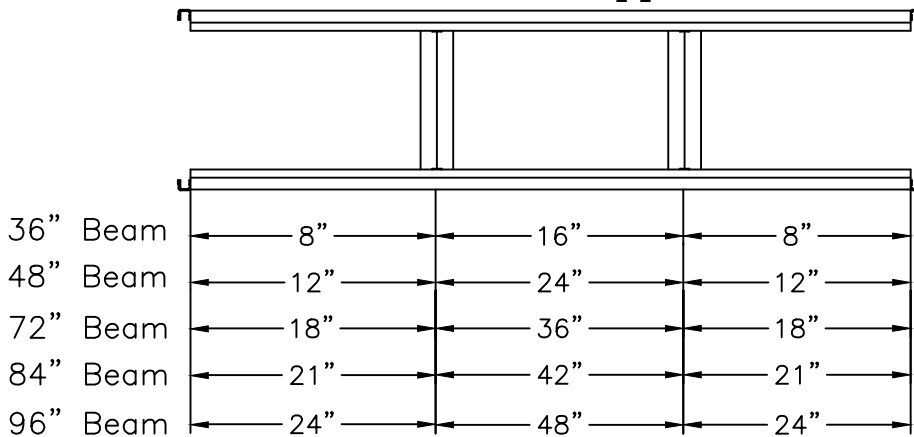

FIGURE 4A
- c) Install Multi-Function Shelf Supports (MFWSS or MFWSS_HD) between the Beams. See FIGURE 4 for load capacities and FIGURE 4A and 4B for locations of shelf supports.